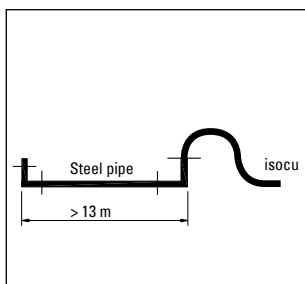

fig. 5
- When connecting isocu to steel pipes > 13 m, follow the rules shown in fig. 5.